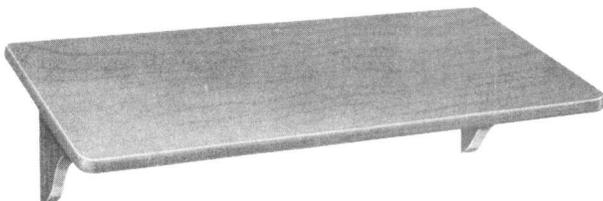

Fig. 3—11-Type Directory Shelf
2.06 The 11-type shelf is shown in Fig. 3. The 12- and 13-types are similar; they differ only in length. Refer to Table A for dimensions.